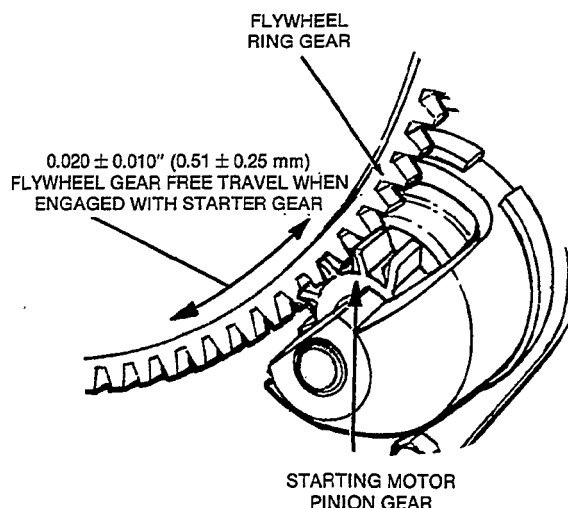

FIGURE 52. CHECKING STARTER GEAR LASH
5. Measure the amount of free travel (lash) between the pinion gear teeth and the ring gear teeth, as shown in Figure 52. Proper lash is 0.020 ± 0.010 in. (0.51 ± 0.25 mm). Loosen and adjust the starter motor as necessary to obtain the correct setting.